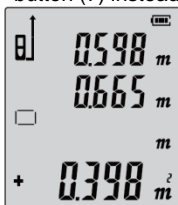

Fig.2
Click the "+" - button (2) and carry out the second area measurement (Figure 2).